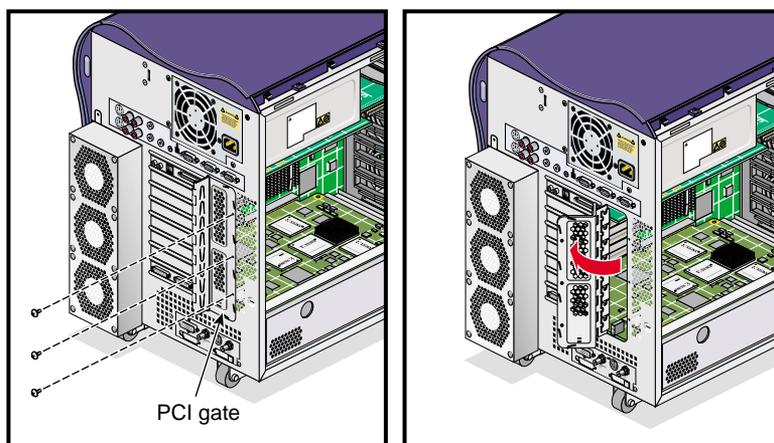

Figure 3-31 Opening the PCI Gate
1. Remove the three screws that secure the PCI gate to the enclosure. Then open the PCI gate (see Figure 3-31).